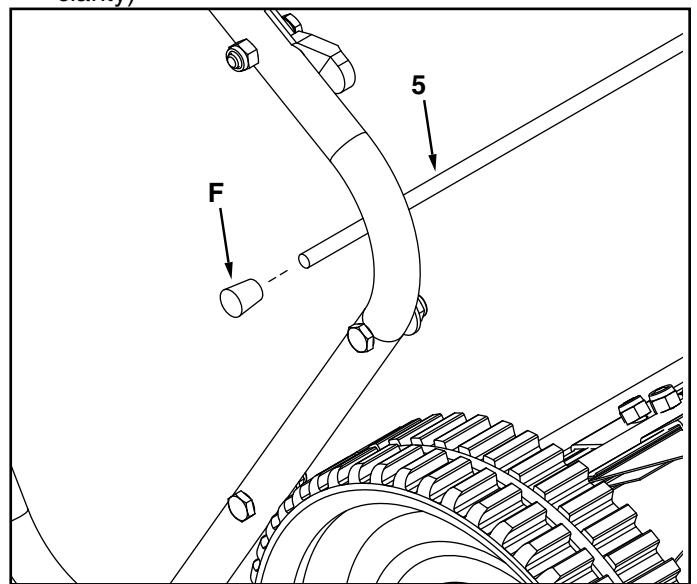

FIGURE 6
- Assemble the two plastic rod caps (F) to the rod ends of the lower bag rod (5). See figure 6 (bag removed for clarity)